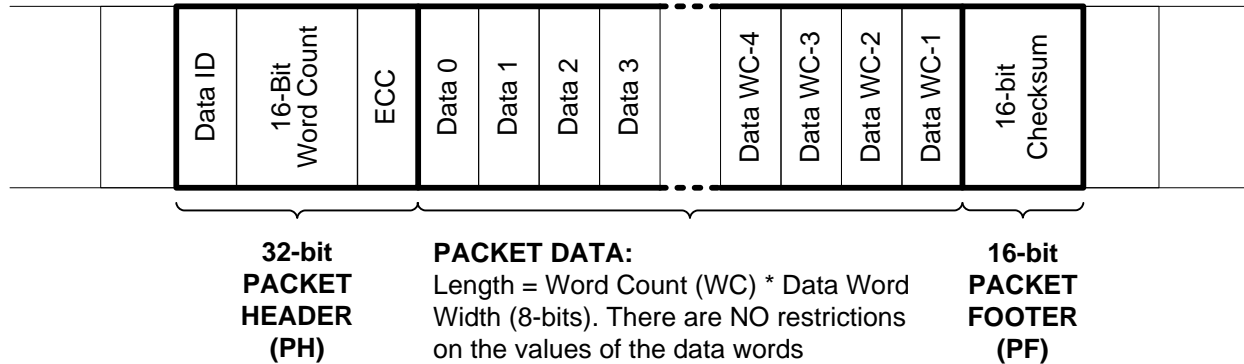

Figure 22. CSI-2 Long Packet Structure
A long packet consists of three elements: a 32-bit packet header (PH), an application-specific data payload with a variable number of 8-bit data words, and a 16-bit packet footer (PF). The packet header is further composed of three elements: an 8-bit data identifier, a 16-bit word count field, and an 8-bit ECC. The packet footer has one element, a 16-bit checksum. Figure 22 shows the structure of a long packet.